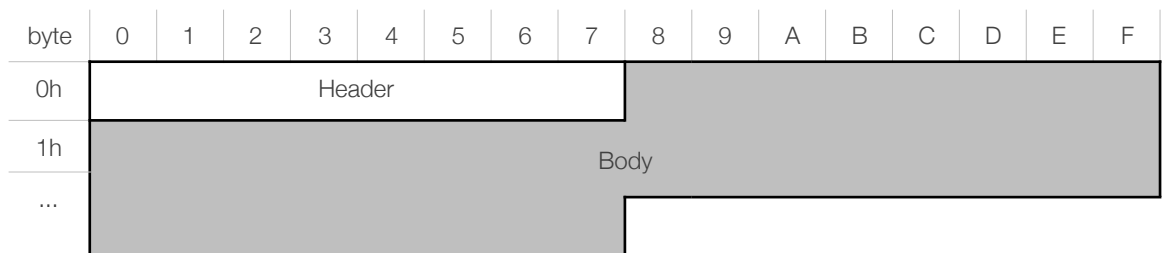

Figure 2-1. Packet Format
- Inside the frame, the packet consists of a header and a variable length body, as shown in Figure 2-1.